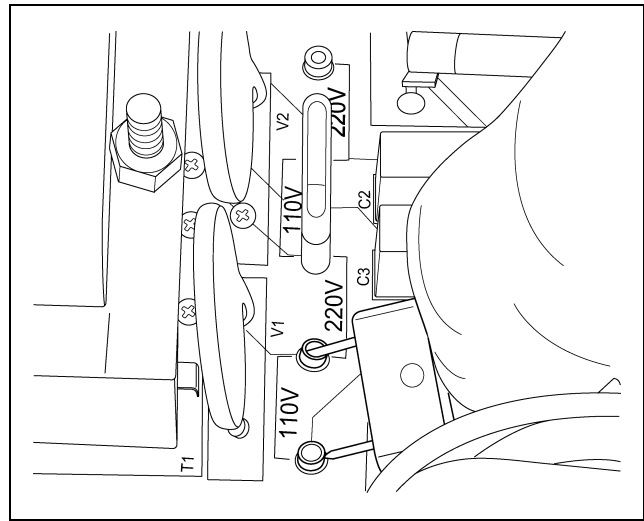
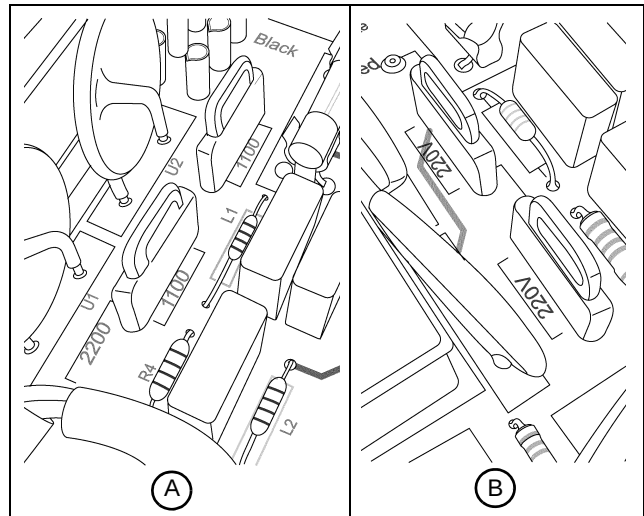

Figure 5H Voltage Jumper Location
Figure 5I A) Close-up of 110V Jumper Setting.
- a. For 110V line up the two (2) jumpers with 110V holes. (See Figure 5H and Figure 5I-A.)
- b. For 220V line up the two (2) jumpers with 220V holes. (See Figure 5H and Figure 5I-B.)